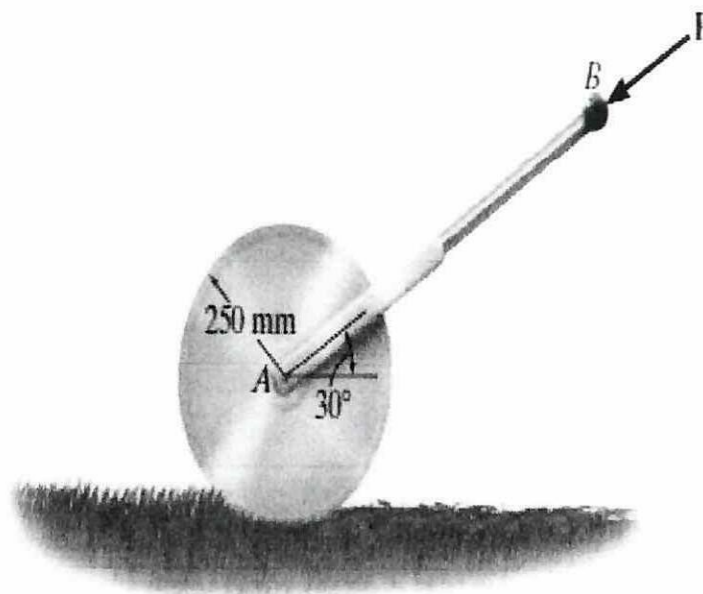

Figure Q3(c)
- (c) **Figure Q3(c)**, shows the lawn roller having a mass of 80 kg. If the arm BA is held at an angle of 30° from the horizontal and the coefficient of rolling resistance for the roller is 25 mm, determine the force P needed to push the roller at constant speed.